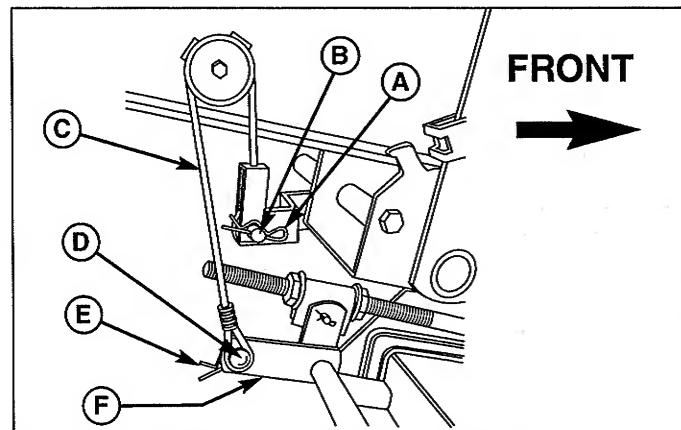

Figure 19. Mower Lift - 50" Manual Lift Models
4. See Figure 19. Connect the mower lift cable (C) to the mower lift arm (F) using a clevis pin (D), hair pin clip and washer (E).